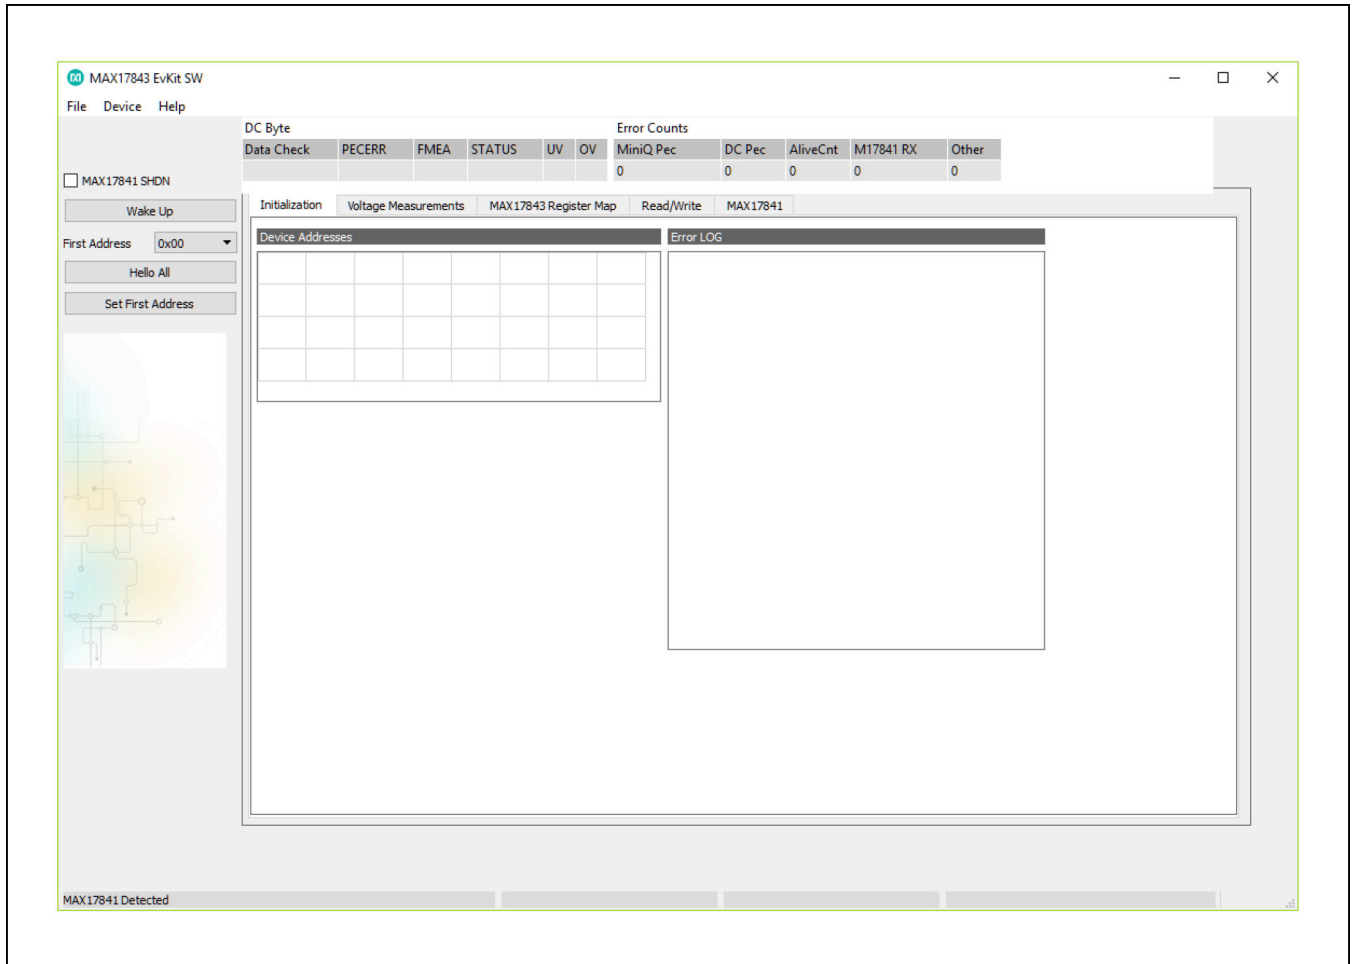

Figure 1. MAX17843 EV Kit Software (Installation Tab—MAX17841 Detected)
- 13) Start the MAX17843 EV kit software by opening its icon in the **Start | Programs** menu. The EV kit software automatically establishes a connection with the EV kit. Once the status bar at the bottom of the window displays **MAX17841 Detected** (Figure 1), proceed to the next step.
- 14) If checked, uncheck the **MAX17841 SHDN** checkbox in the upper left box (Figure 1).
The upper-left group box provides shutdown/enabling of the MAX17841B device, **Wake Up**, **Hello All**, and **Set First Address** buttons (Figure 1).
The **Initialization** tab (Figure 1) provides the **Device Address** grid and the **Error LOG** status box, which displays a summary of bus activity when the Wake Up and HELLOALL commands are executed. The **Error LOG** also provides descriptions of errors that occur during read, write, and scan operations.
The **Read/Write** tab (Figure 1) provides controls for executing the WRITEDEVICE, WRITEALL, READDEVICE, and READALL commands.
The **Voltage Measurements** tab (Figure 1) enables initiating and monitoring the ADC scanning of the connected devices.
The **MAX17843 Register Map** tab (Figure 1) provides a grid that is used to display the contents of the registers. This tab also includes bit-field descriptions for each register. The user can write to the registers of the first MAX17843 in the daisy-chain. Refer to the MAX17843 IC data sheet for additional register and interface details.
The **MAX17841** tab (Figure 1) provides access to the MAX17841B device registers, as well as bit-field information.
- 2) Uncheck the **MAX17841 SHDN** checkbox (Figure 1).